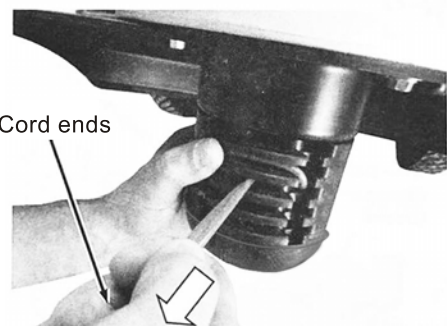

Fig.4
3. Pull the Cords under the loop and push the loop up into the string disc groove above them (Figure 4) and then pull the Cords tight.